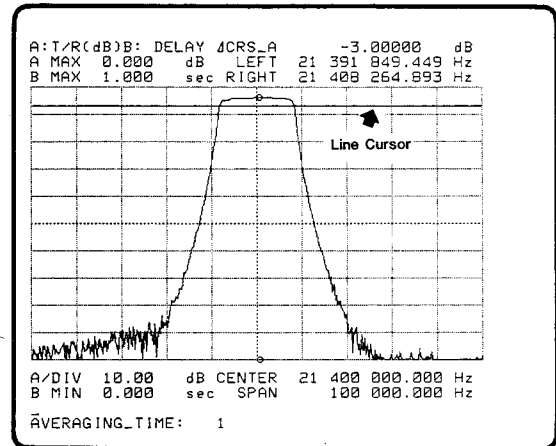

Figure 3-90. o REF- LCURS display
This softkey is used to select the "o REF-LCURS (Delta Line Cursor) mode". In this mode, the o-marker and line cursor appear as shown in Figure 3-90.
2. **LEFT/RIGHT:** The sweep parameter values corresponding to the position of the crossing points between the line cursor and the data (A or B). Pressing the 'menu' softkey to display the menu shown in Figure 3-90.